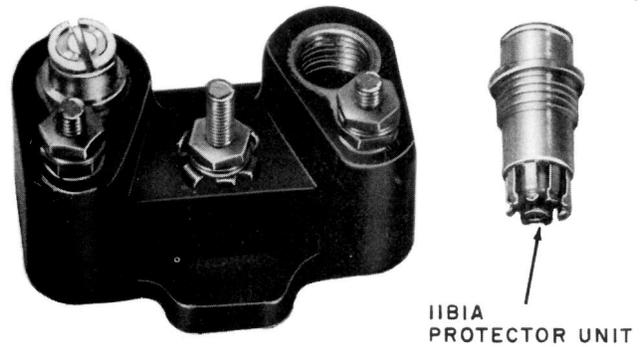
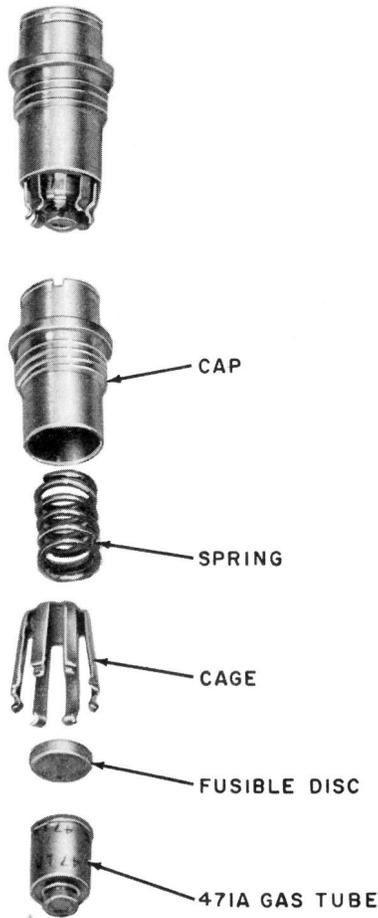

Fig. 5—123E1A Protector
Fig. 6—11B1A Protector Unit
3.05 The **123E1A protector** (Fig. 5) provides protection for one pair of wires and is intended for use at stations served by cable or multiple wire having a high level of lightning activity. It consists of a nonconductive base containing three binding posts and two 11B1A gas tube protector units (Fig. 6). The 123E1A protector
Note: The 11B1A protector unit (Fig. 6) incorporates a 471A electron (gas) tube which provides nominal 500-volt protection. The ultimate failure mode of the 11B1A protector unit is a short circuit (to ground); therefore, it does not require the use of carbon blocks in parallel. The 471A tube is mounted in a brass cap along with a stainless steel spring, a fusible disc, and a solder tinned brass cage. These parts are arranged so heating of the tube melts the fusible disc and allows the cage to contact the grounded surface of the station protector. This short-circuits the gas tube and provides a path to ground. During